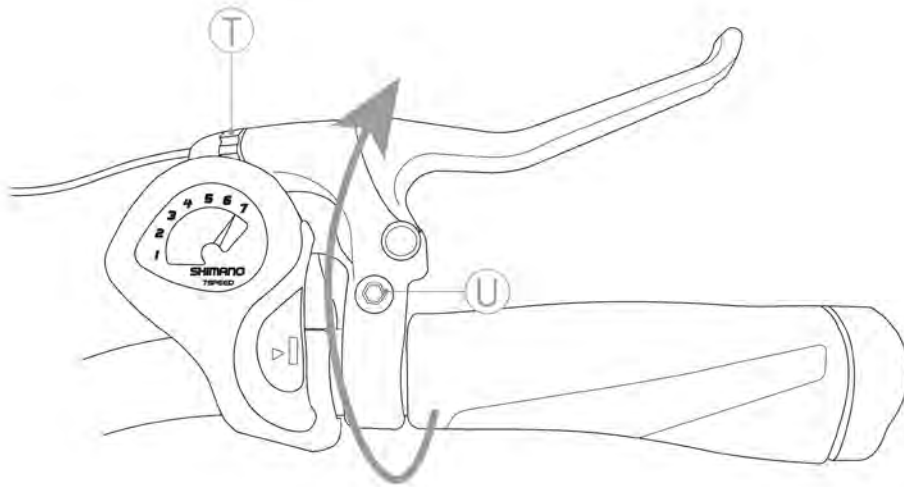

FIG. 16
- Rotate the brake lever using the tightening screw (Ref. U - Figure 16) until reaching a comfortable hand position.
- Vary the stroke of the brake lever by acting on the adjuster (Ref. T - Figure 16).